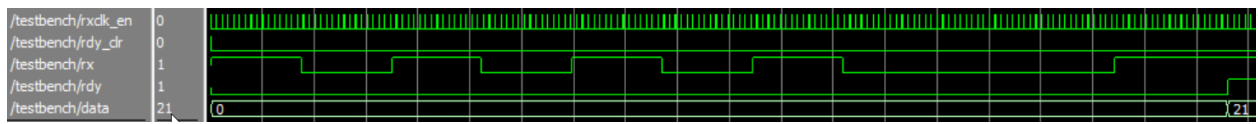

Figure 1: Sample simulation waveforms.
5. A screen capture of the simulation waveforms is shown in Figure 1.